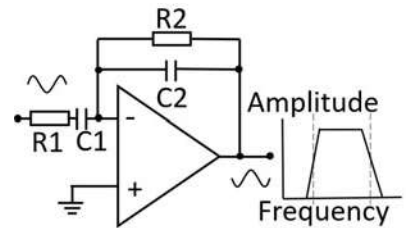

Figure 11. The general circuit of a band-pass filter.
10. The *band-pass filter* of Figure 11 is a unity gain amplifier with two break point frequencies, one high and one lower. The values of R1 and C1 determine the high-pass cutoff while the values of R2 and C2 determine the low-pass cutoff.